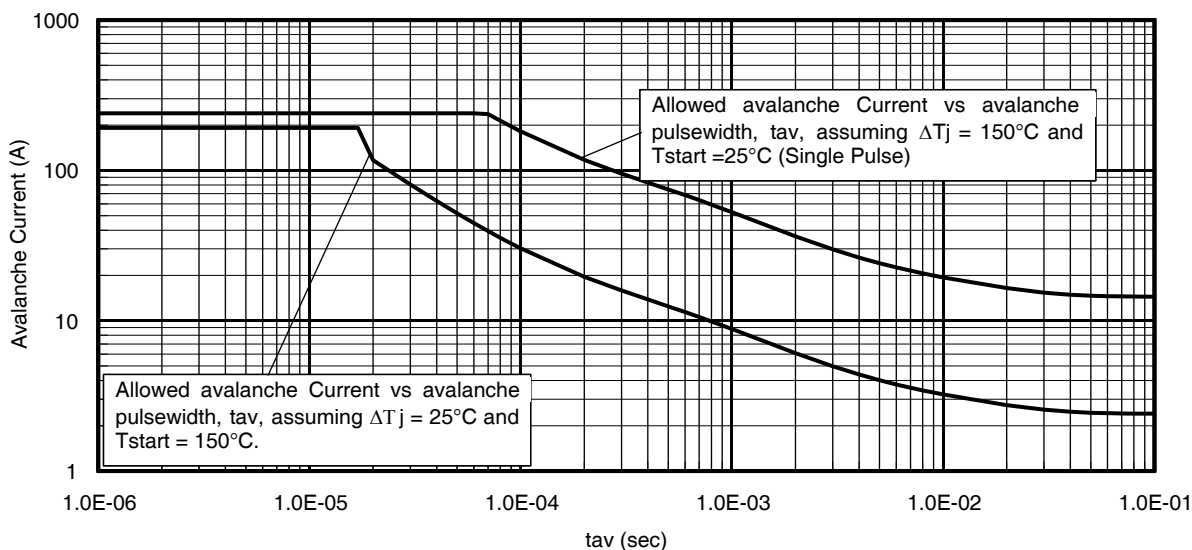

Fig 15. Avalanche Current vs. Pulse width
| I_{AR} | Avalanche Current ^② | See Fig 15, 16, 23a, 23b | A |
Notes on Repetitive Avalanche Curves , Figures 15, 16: